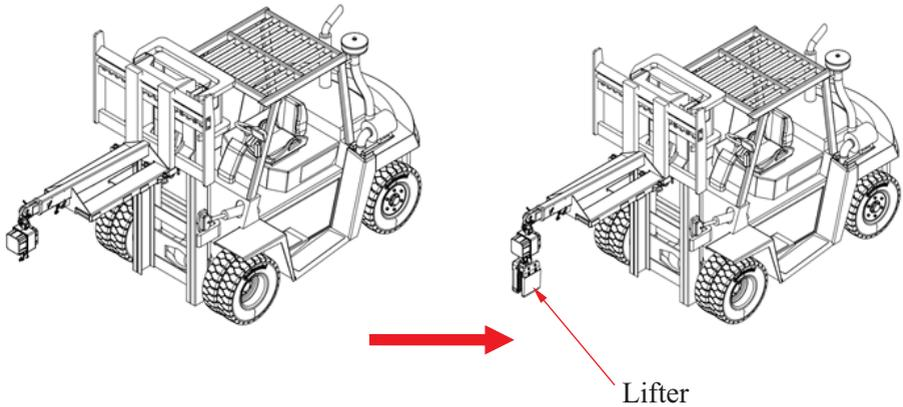

Figure 1.2
**Step 2:** Install the lifter to the bottom of the Rotating Slab Lifter (Figure 1.2).